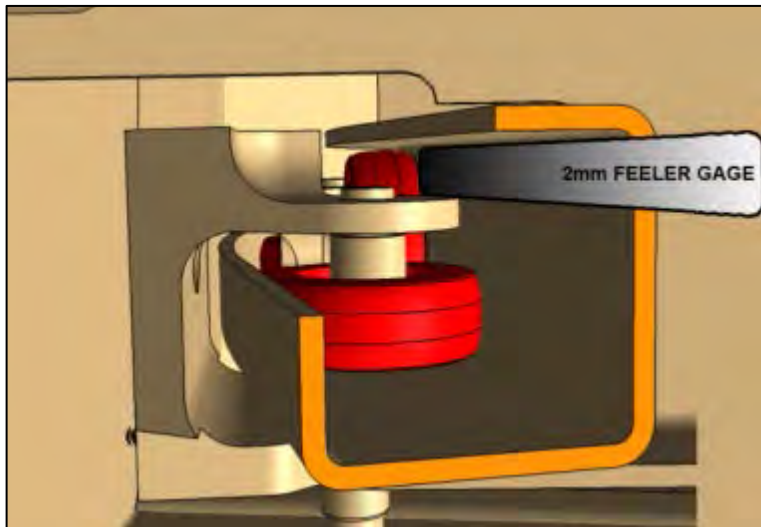

Figure 57
79. Next, apply the proper gap for the horizontal wheels. Insert a **5/64"** (2mm) feeler gage behind the vertical wheel. (Figure 57)